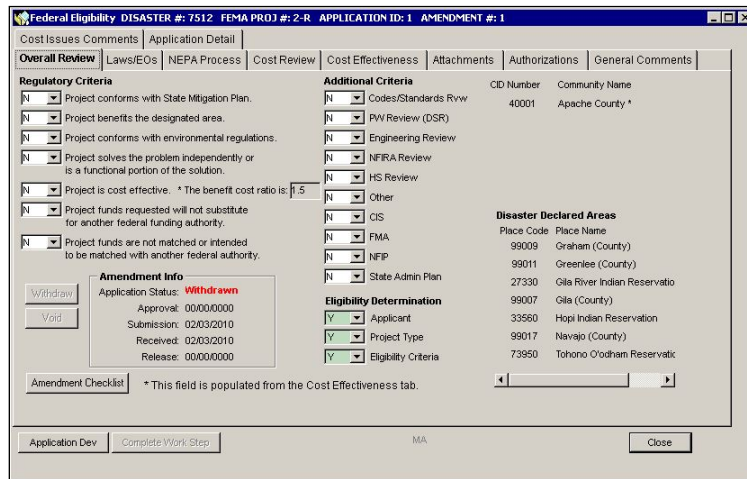

Figure 8-3: Overall Review Tab
4. The **Overall Review** tab is displayed (Figure 8-3).